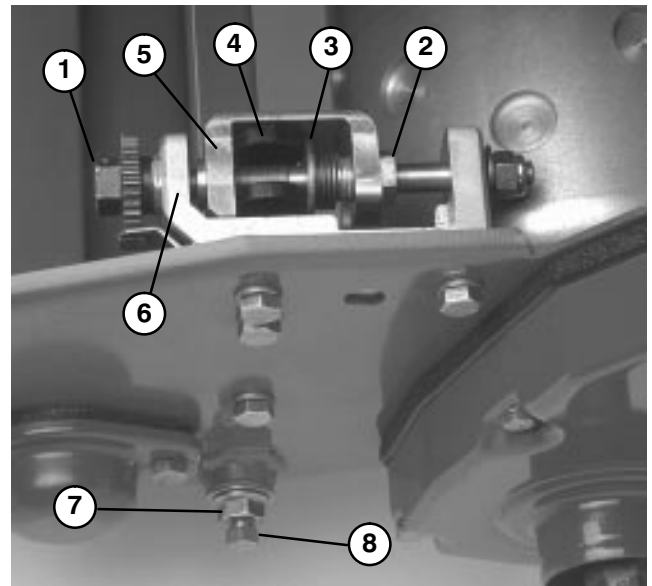

Figure 42
1. Turn bedbar adjuster screw, counterclockwise, until channel bottoms out in adjuster frame (Fig. 42).
2. Using a 7/8" standard wrench, back out the spring tension screw, until the thrust washer is no longer tensioned against the bedbar (Fig. 42).
3. On each side of the machine, loosen the jam nut securing the bedbar bolt (Fig. 42).
4. Remove each bedbar bolt allowing bedbar to be pulled downward and removed from machine. Account for (2) nylon and (2) stamped steel washers on each end of bedbar (Fig. 42).